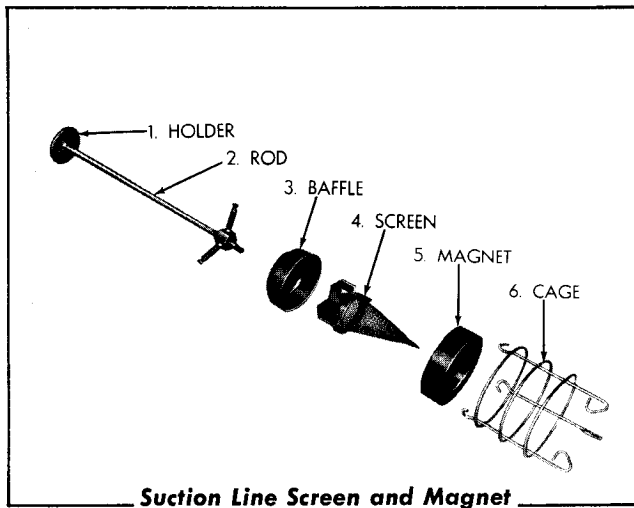

FIG. 75
5. Reassemble screen and magnet assembly in their correct positions (Fig. 75) and install entire unit back in the tank.